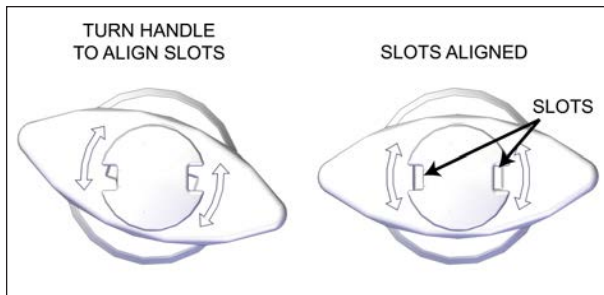

FIGURE 103: ALIGN THE SLOTS
2. Turn the red handle left or right to align the slots located in the center part of the handle, see Figure 103.